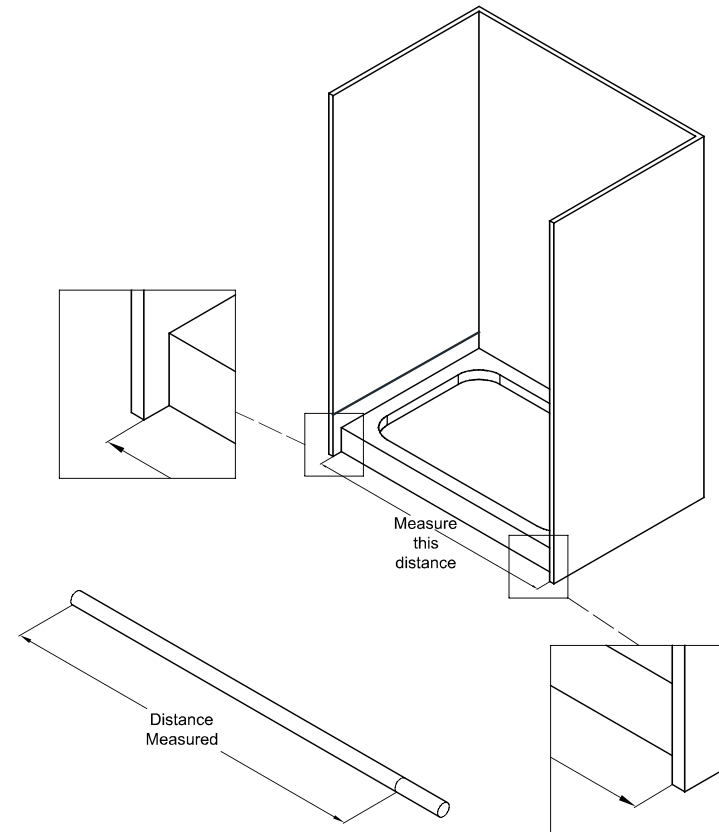

Figure 1
1. Take a precise measurement of the distance between the two completed walls. This distance is labeled as “W” on the diagram. Refer to Figure 1 for details.
2. For your convenience, the Top Guide Rail (03) has been precut for shower models with a width of 48” or 60”.